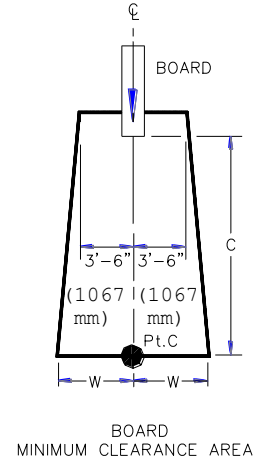

Figure 17
- A. The minimum clearance area in front of a properly installed diving board on an in-ground swimming pool is a minimum distance of 3'-6" (1067 mm) on either side of the board's centerline as shown in FIGURE 17. Pt. C extends a minimum distance of "C" from the tip end of the board as shown in FIGURE 17. The width distance "W" on either side of Pt. C is given in CHART 1 and shown in FIGURE 17.